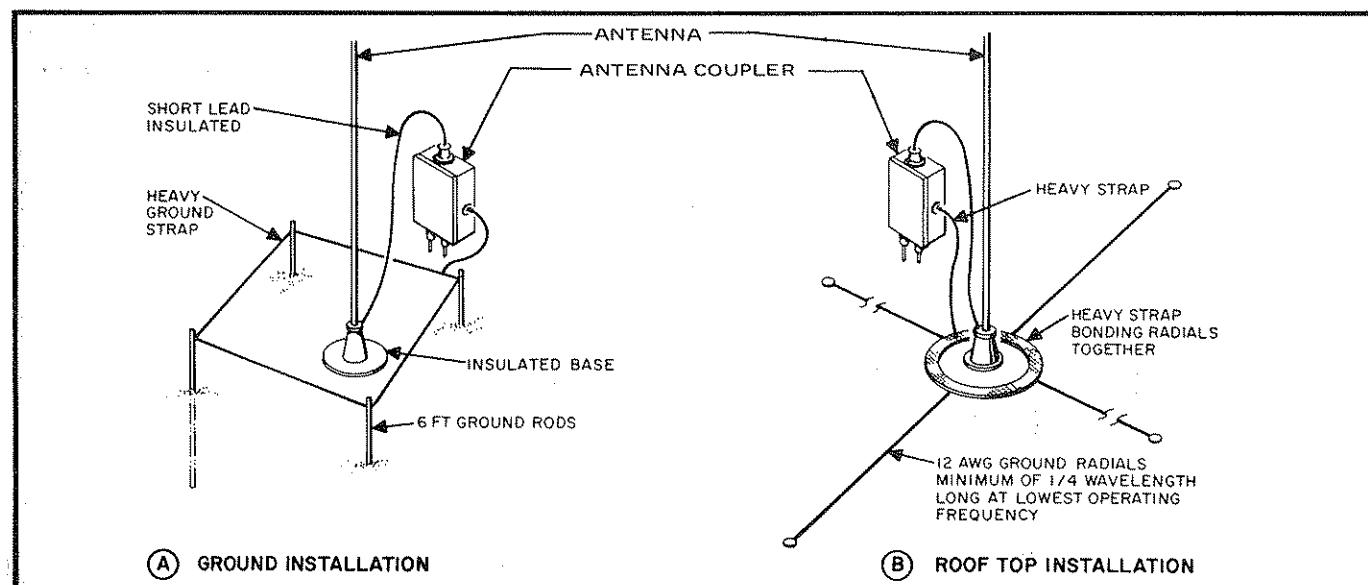

Figure 2.7 Whip Antenna
- c. When using whip antennas, the ground system actually forms part of the radiating system. Where space permits (such as in a base station installation) a good ground plane or radial system should be installed at the base of the antenna. (See Figure 2.7)
Whips and long wires are popular non resonant antennas. The whip antenna (illustrated in Figure 2.7) is often used in mobile, marine, portable or semi portable installations because it is rugged and self supporting. The antenna impedance is strongly dependent on the operating frequency and an antenna coupler, therefore, must be used to match the antenna to the exciter. Best radiation efficiency will be obtained if the antenna is at least $\frac{1}{8}$ wavelength long at the lowest operating frequency; however, this requirement does not result in a practical size antenna for low frequency operation. Thirty-five foot whip antennas offer a good compromise between practical height and good electrical performance at low frequencies. The Antenna Couplers are designed to efficiently match whip antennas of 15 foot length or greater. An efficient match may also be obtained for a 9 foot whip above 4 MHz. The ship's performance is greatly influenced by its ground system. For temporary base station installations, a minimum of four six foot long ground rods should be driven into the ground symmetrically placed around the antenna base. The rods should be bonded together with heavy strap and then connected to the antenna coupler ground by another short heavy strap. If the antenna is mounted on the roof of a building, where a short ground lead to the coupler cannot be obtained, a minimum of 4 symmetrically placed